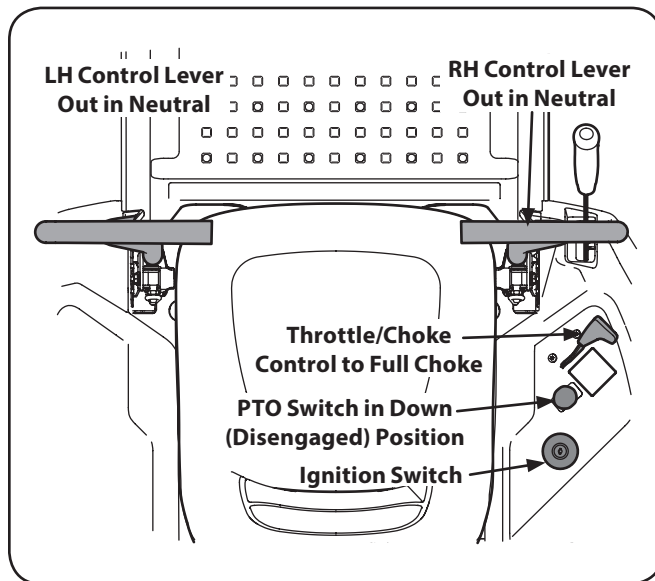

Figure 5-1
2. Make certain the PTO switch is in the disengaged (down) position. Refer to Figure 5-1.
3. Move the throttle/choke control into the full choke position. Refer to Figure 5-1.